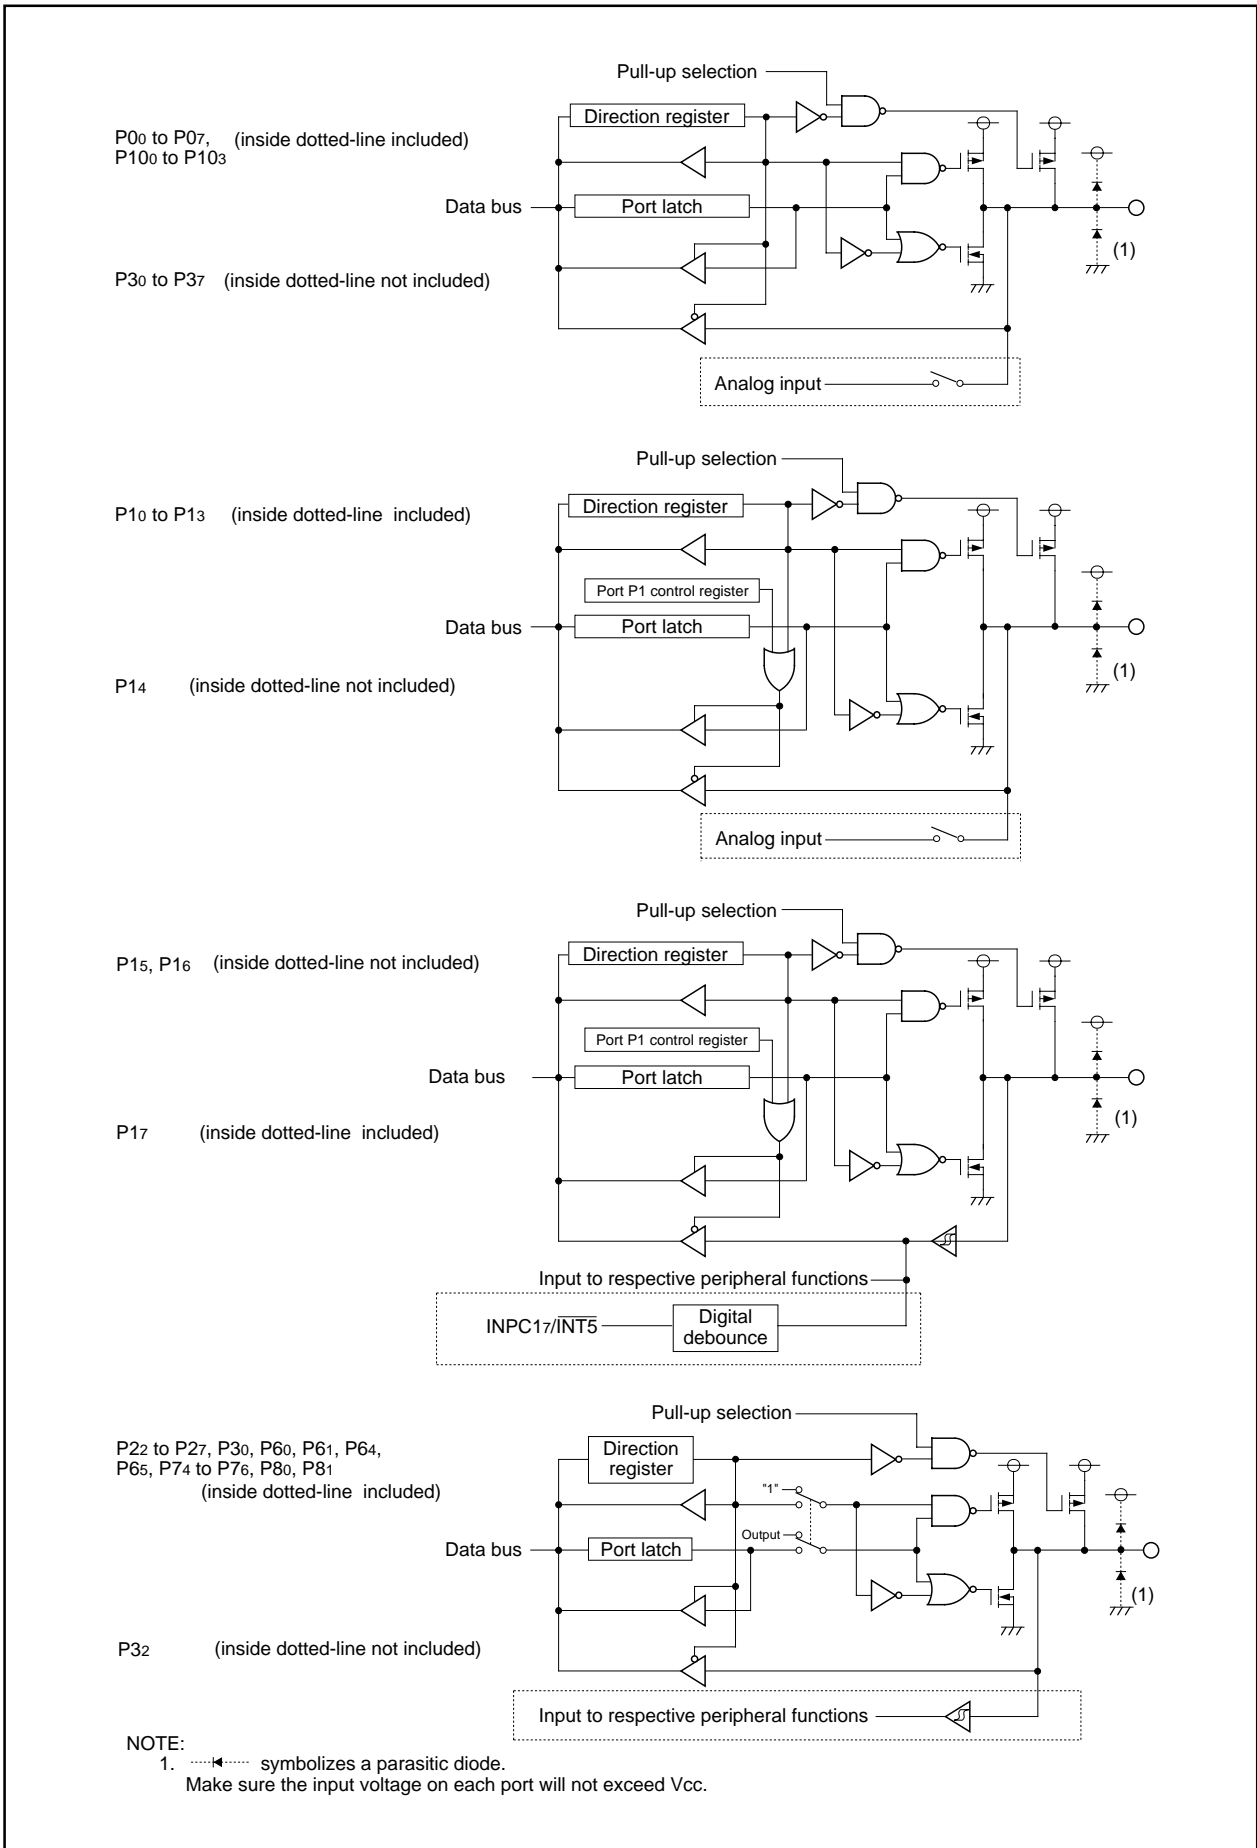

Figure 19.1 I/O Ports (1)
**Figures 19.1 to 19.5** show the I/O ports. **Figure 19.6** shows the I/O pins.